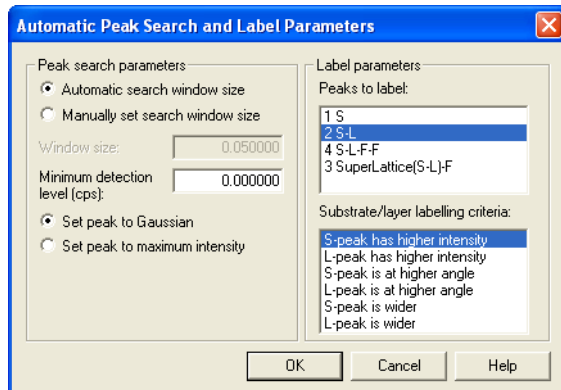

Figure 3-5: Automatic Peak Search Window
- Select *Peaks - Automatic Peak Label* and highlight “2S-L” and “S-peak has higher intensity” as shown in Figure 3-5. You can ignore the parameters set on the left-hand side as they are not applicable for area scans.
If the automatic peak search window does not appear as in Figure 3-5, go to *Customize - Defaults*, select the “Automatic Peak Search and Label Parameters tab” and remove the tick from the “Peak labels” box at the bottom, click the button and return to the previous bullet point.